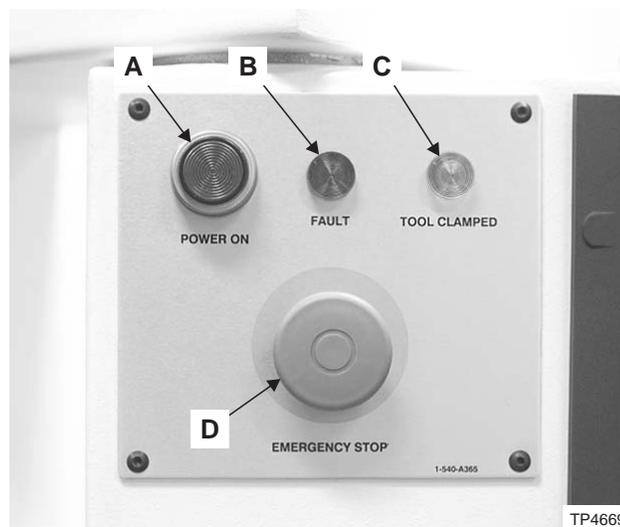

Figure 1.1 - Emergency Stop Panel
Indicator light “A”, Figure 1.1, is ON when the machining center is turned ON.
4. Pull Emergency Stop push button "D", Figure 1.1, out and release to allow the machine to power up.